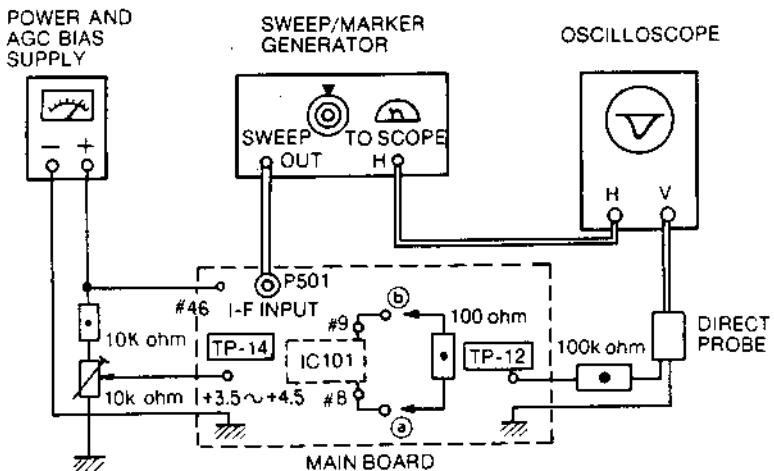

Figure 18. Picture I-F Sweep Alignment
- GENERAL Refer to figures 18 and 19 for test equipment connection and alignment points.